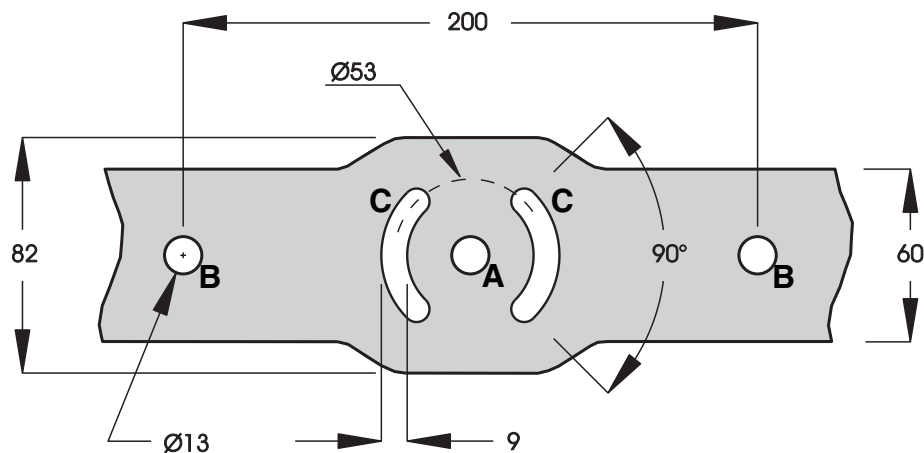

Figure 8: Mounting yoke attachment points
**The yoke must be fastened to the installation surface using minimum three fasteners. If there is a danger that the fixture may cause injury or damage if it falls, a securely anchored safety cable that is approved for the weight of the fixture must be looped through one of the holes in the yoke base marked A, B or C in Figure 8 on page 15.**
See Figure 8. To mount the fixture: